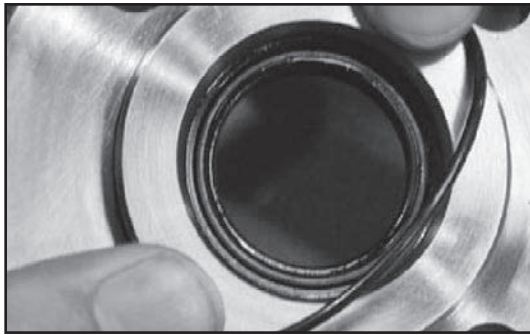

Figure 12. Installing Bearing Cap Cover O-ring.
9. Install the new o-ring onto the outside of the cover. (Figure 12)